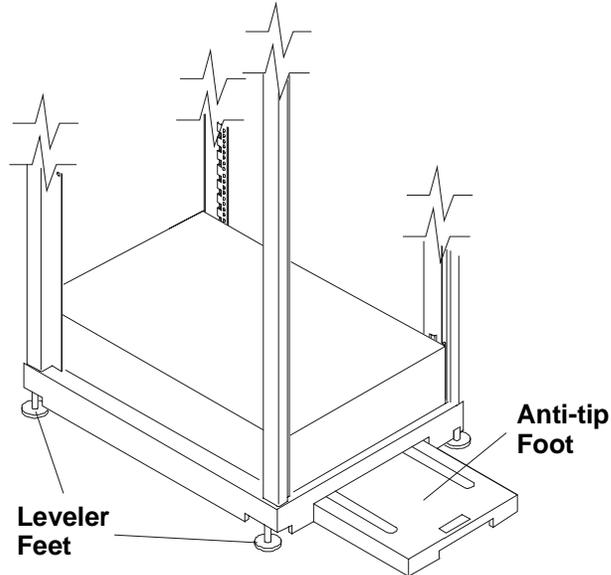

Figure 8-2. Anti-Tip Foot and Leveler Feet
- Extend the rack's anti-tip foot from under the front of the rack or insure that the anti-tip feature is installed (see Figure 8-2) prior to any work on the rack to prevent rack tip-over, equipment damage, and injury.